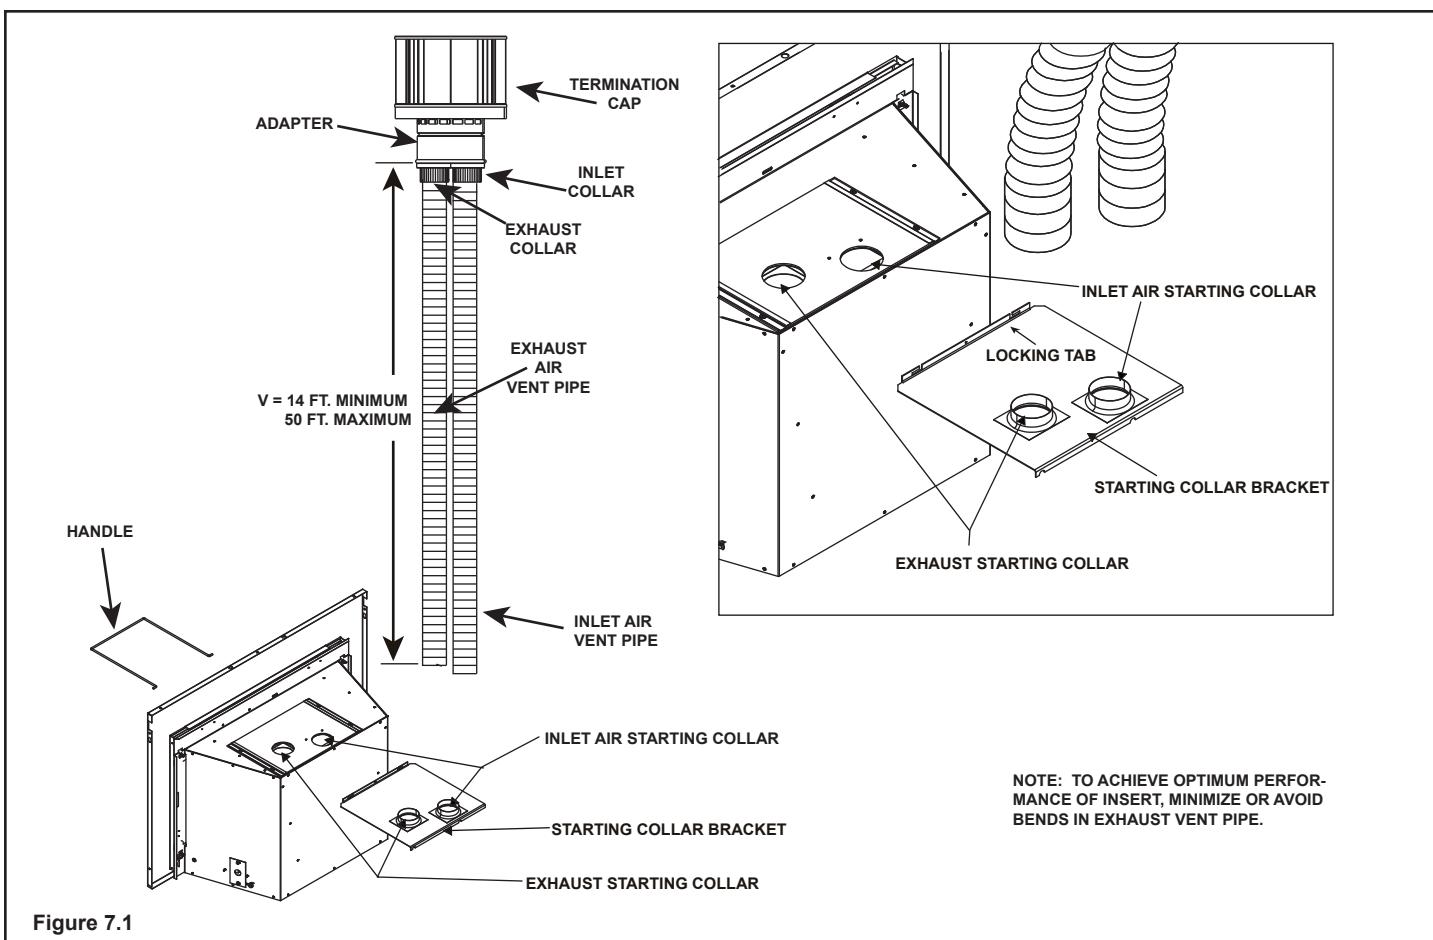

Figure 7.1
- Secure the exhaust flexible vent pipe to the exhaust starting collar on top of the appliance with three screws. See Figure 7.1.
- Use 3 screws to attach the section of inlet air vent to the inlet collar on the collar slide plate. See Figure 7.1.
- Secure collar slide plate to appliance by placing locking handle into position with locking tabs (see Figure 7.1) and secure with #8 screw.